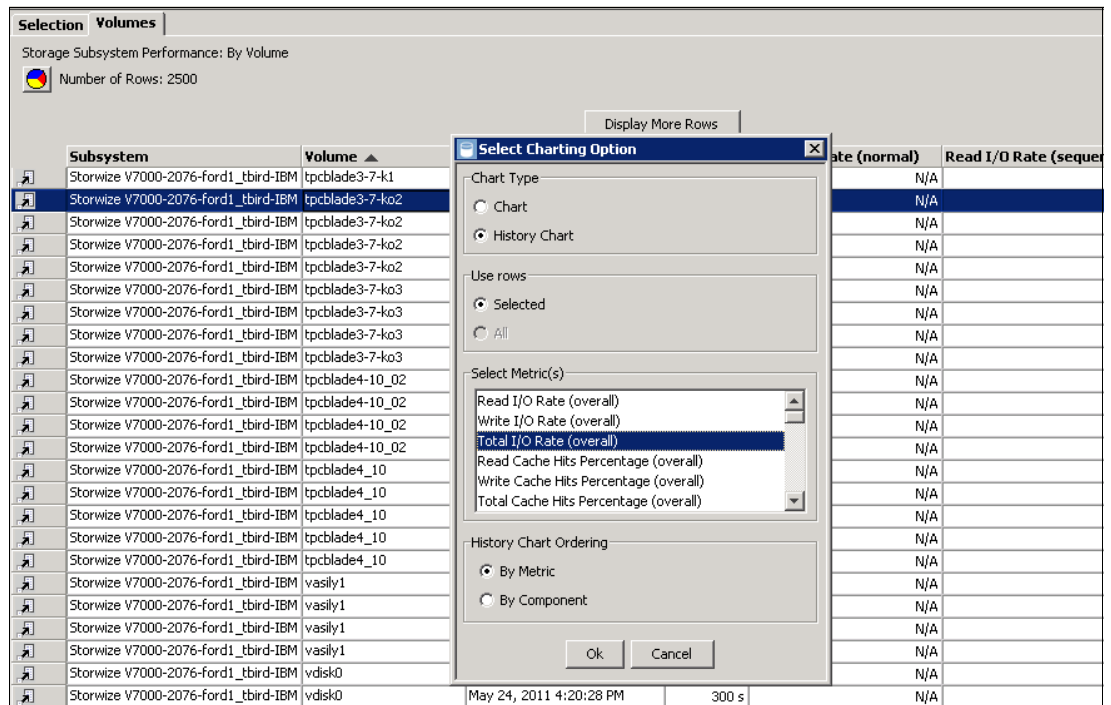

Figure 13-108 Storwize V7000 performance report: Volume selection
5. In the Select Charting Option window (see Figure 13-108 on page 447), select **Total I/O Rate (overall)**. Then, click **OK** to produce the graph.